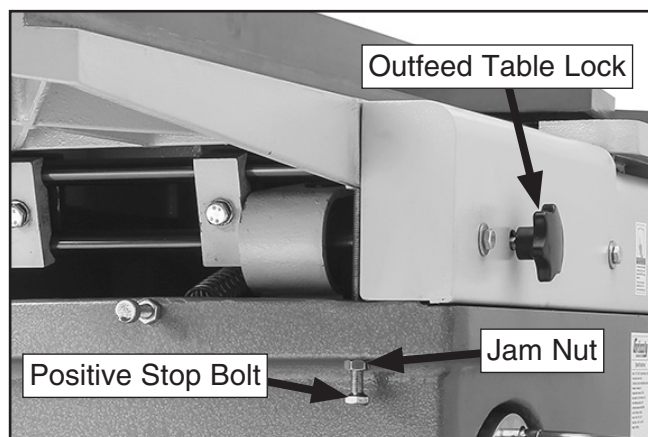

Figure 49. Location of outfeed table lock, positive stop bolt, and jam nut.
3. Loosen outfeed table lock and positive stop bolt jam nut (see **Figure 49**).